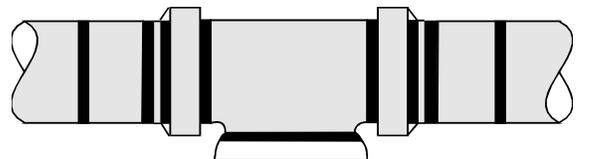

Figure 14
25. Where the sleeving overlaps onto the branch, fold to the contours of the fitting and tape around the circumference of the branch (Figure 14).